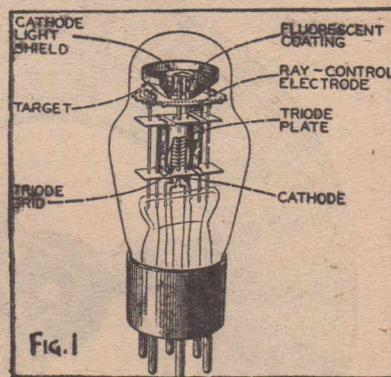

Fig. 1
The "Teleconda" 1 is designed to take the place of the straight 4 valver, wherever distance from the local transmitters, or bad position, warrant higher sensitivity. Interstate reception is just as easy with it as with a five valve set, but the lack of AVC does not make it the ideal thing for DX-ing. However, the circuit shown in Figure 1 is simple and foolproof and uses only 3 resistors and condensers more than a simple straight 4 valve circuit. Its main advantage is that it avoids all the main faults attributed to reflex circuits: 1). Minimum volume effect is entirely eliminated by the use of bias volume control (2) Distortion and overload of reflex valve: Negligible. Due to the bias method of volume controlling, the amplitudes of both IF and audio frequencies on the grid of the reflex valve are kept very low, for normal listening only a fraction of a volt, so the curvature
The first valve of this type to be developed was the 6E5, and in Figure 1, the disposition of the various internal components of such a valve is clearly shown. The glass envelope is similar in size to that used for small triodes, such as the 37, 56, 76, etc., and is fitted with a small 6 pin base. The heater is 6.3 volts at 0.3 ampere and the cathode of the indirectly heated unipotential type.